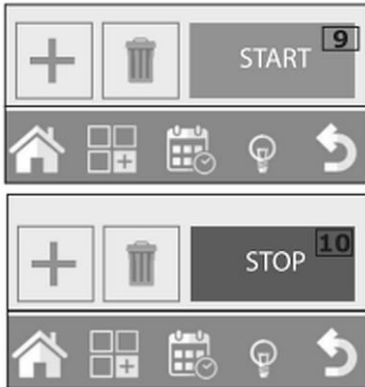

Fig. 18
1. After setting thermal processing parameters as desired, press START key (9, Fig. 18), to start thermal processing.
2. To this end, press STOP key (10, Fig. 18).